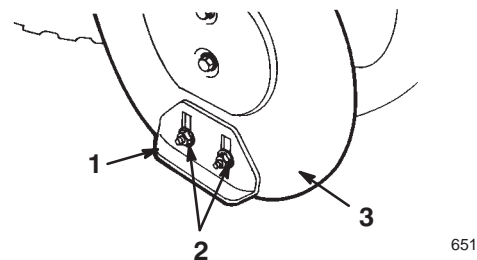

Figure 21
5. Loosen the 4 flange nuts that secure both skids to the auger side plates (Fig. 21) until the skids slide up and down easily.
10. Tighten the 4 flange nuts that secure both skids to the auger side plates (Fig. 21).